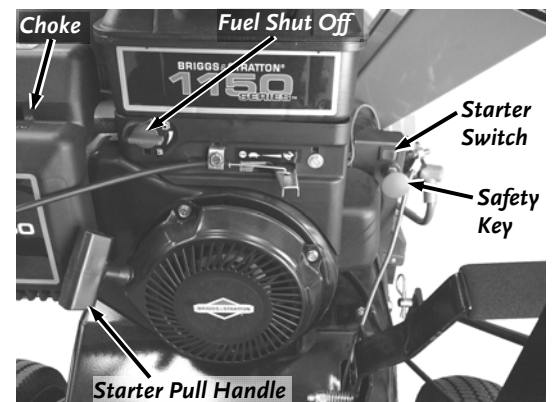

Figure 20B
2. Move the Choke Control Lever to the choke position (leave in the run position if the engine is already warm) (**Figure 20B**).
4. Insert the Safety Key into the slot under the Starter Switch (**Figure 20B**).
2. Turn the Switch to the OFF position (**Figure 20B**).